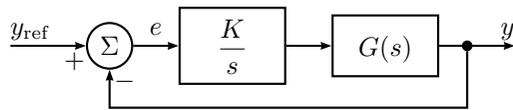

Figure 3.16c
- c) Assume that  $G$  is controlled using an I controller according to Figure 3.16c. For what values of  $K$  is the closed loop system stable?